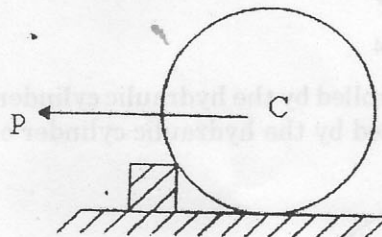

Figure 1
- II. (a) Determine the magnitude of a horizontal force P applied at the center C of a roller of weight 1000 N and radius 100 mm. to pull it over a 60 mm. curb. Also calculate the magnitude and direction of the least force applied at C that will life the roller over the curb (Fig. 1)